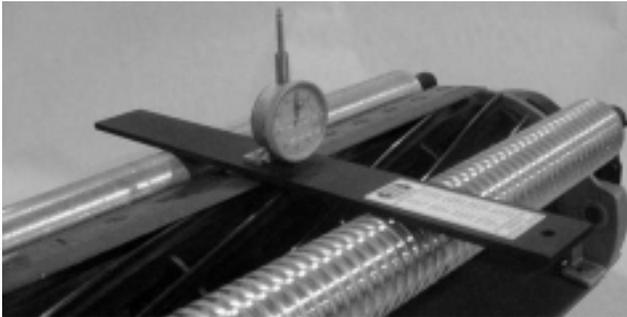

Figure 20
5. Hook screw head on cutting edge of bedknife and rest rear end of bar on rear roller (Fig. 20).